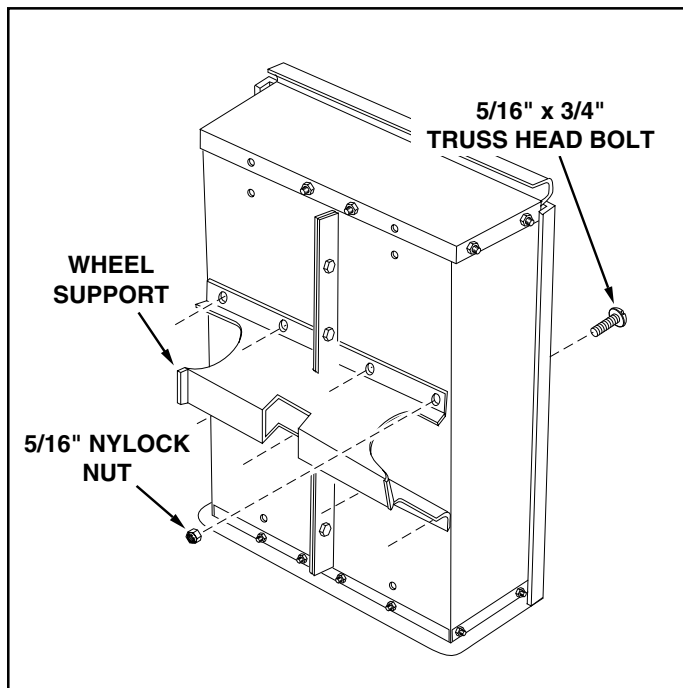

FIGURE 5
11. Assemble the wheel support to the cart using eight 5/16" x 3/4" truss head bolts and 5/16" nylock nuts as shown in figure 5. Heads of bolts go on the inside of the cart. **Tighten**.